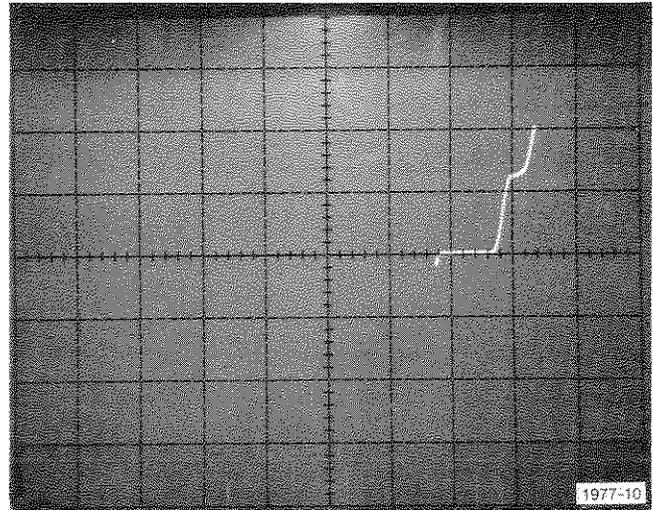

Fig. A-10. Display of output current sink.
a. Turn the Variable Collector % control slowly clockwise until the display shows 2 divisions of vertical deflection (20 mA, see Fig. A-10). See the device specifications for minimum and maximum sink current ratings.